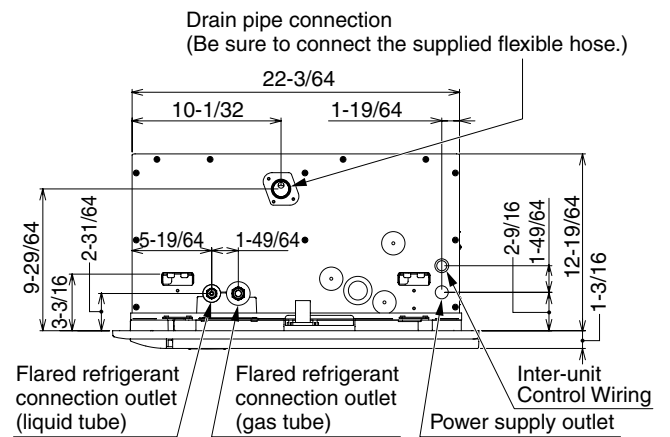

Fig. 3-53
- (3) Calculate the suspension bolt pitch using the full-size installation diagram (printed on the package). The relationship between the positions of the suspension lugs, unit, and ceiling panel is as shown in Fig. 3-53.
- (4) Cut the ceiling material, if necessary.